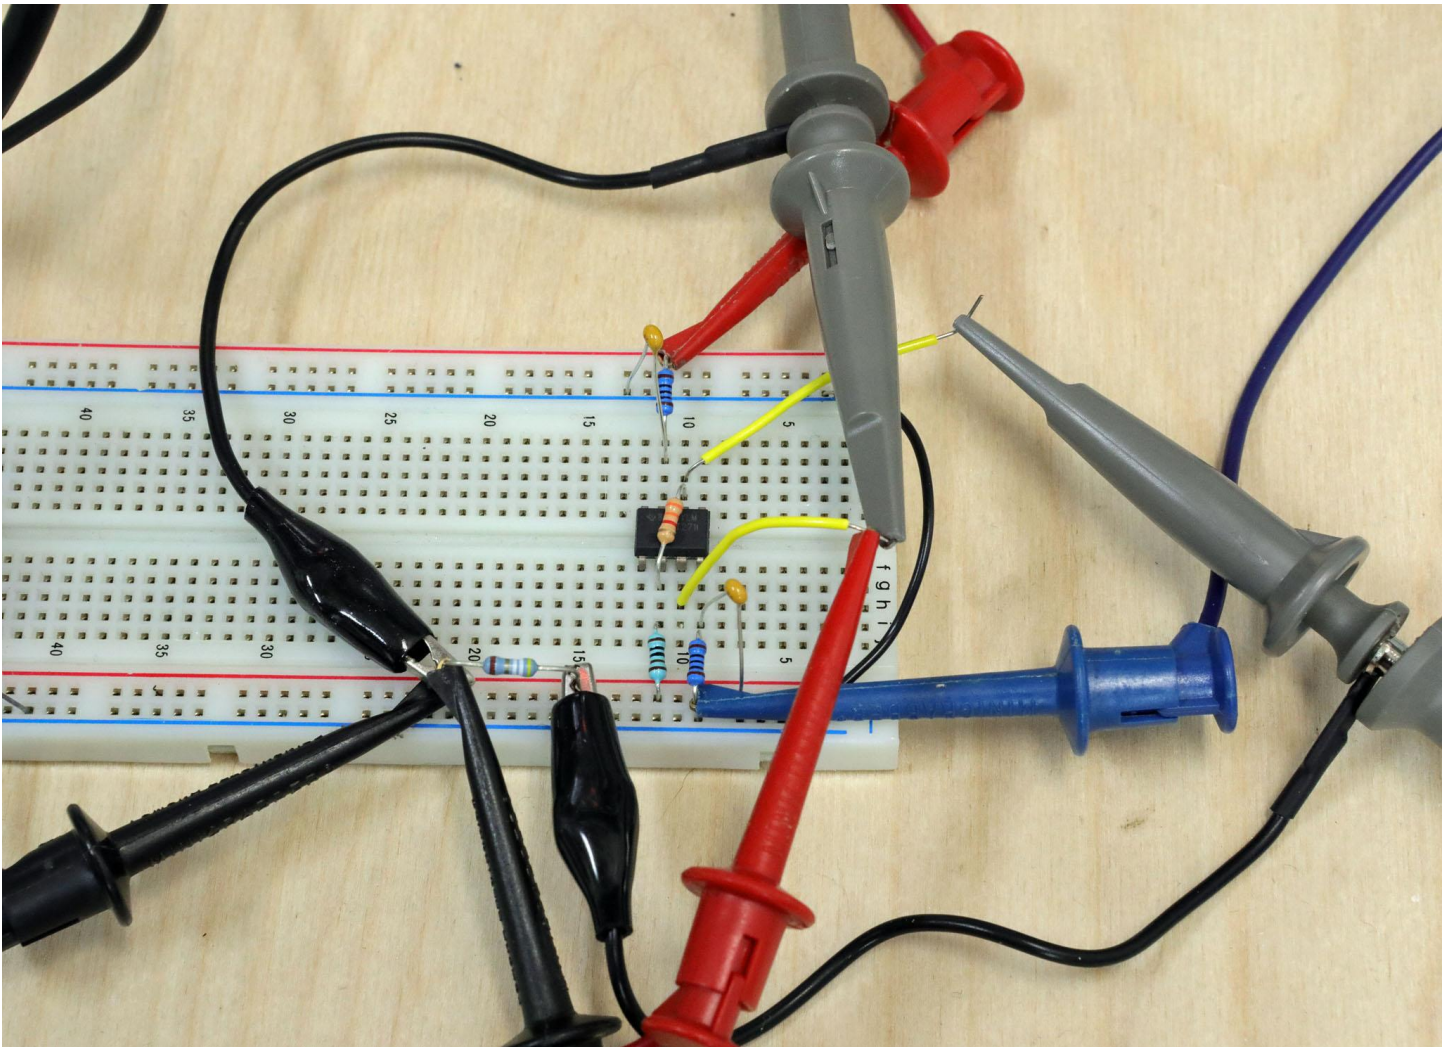

Figure 2: Non-Inverting Amp with Gain Prototype Example.
Use the picture in figure 2 as a construction guide. It is just a guide don't consider it as the only way you can make it. The schematic in Figure 1 is the real circuit. Fig 2 however the recommended way to minimize errors. The errors will slow down the completion of the lab so minimize the possibility of them.
- In Fig 2: The +5 and -5 volt power supplies are the red and blue mini clips connected to the 100 ohm resistors on the red and blue buses near the outer edge of the breadboard. They are the vertical buses that run the whole length of the board. I use Red for +5V and Blue for -5 volts. The bus next to it is usually GND. The +5 and -5 come from the + and - 30V supplies set to 5V. Note if Tracking is turned on you will see that the -30V supply will automatically be set to -5V when the +30V supply is set to +5V. **IMPORTANT: The 2 power supplies have to be connected correctly to create the circuit GND. See article on the Power Supply Desc.**